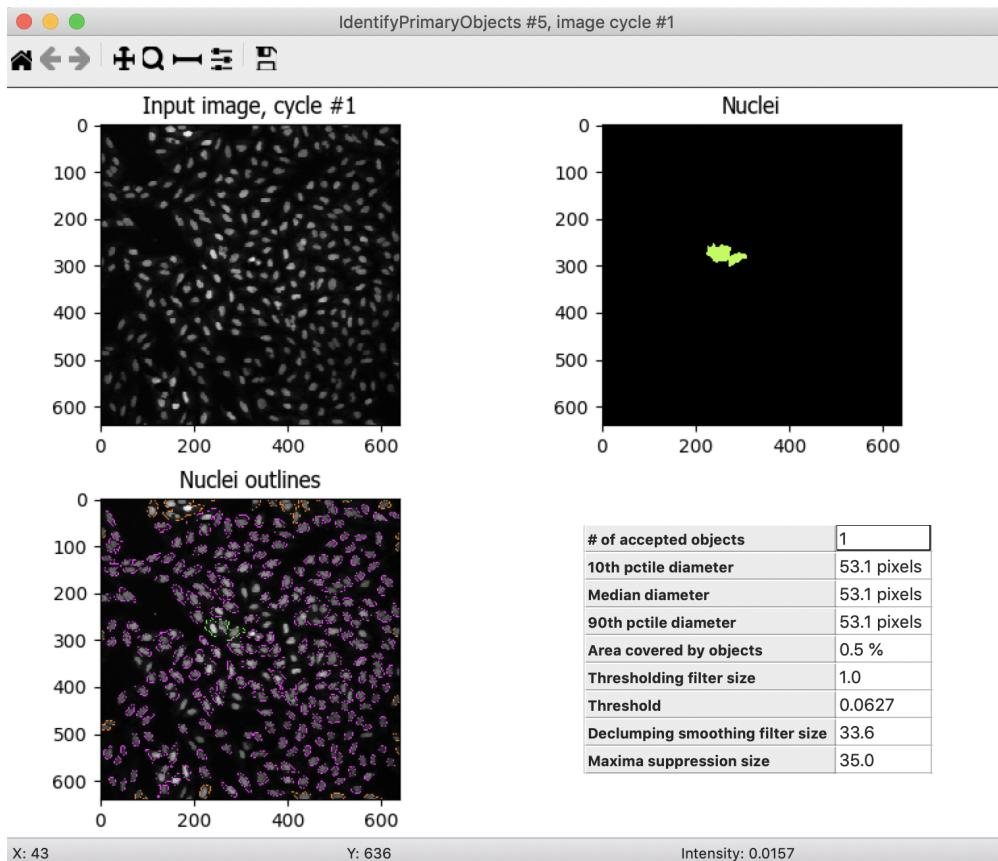

Figure 2: Example module display window for IdentifyPrimaryObjects .
- Click on the "Step" button below the pipeline panel, in order to progress through each module in the pipeline, one by one. Upon stepping through the *IdentifyPrimaryObjects* module, a module display window will appear similar to that shown in Figure 2 below.
The results of *IdentifyPrimaryObjects* are displayed in four panels in the display window, as shown in Fig. 2: